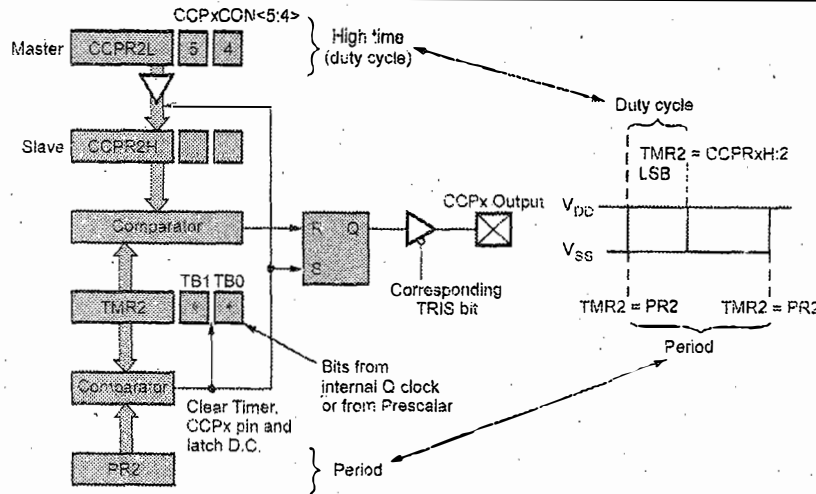

Fig. Q.19.1 PWM Mode
- CCP in PWM mode uses the timer 2 to generate a pulse wave form for a given frequency/duty cycle. Duty cycle is the key performance measurement factor. It uses the CCPRx and PR2 register. PR2 is an 8-bit period register (PR2) whose value remains fixed. TMR2 increments from 00 to the value equal to PR2, TMR2IF flag from PIR1 reg. is raised and TMR2 reset to 00. The clock source for TMR2 is  $F_{osc}/4$  for both prescaler and postscaler options. Fig. Q.19.1 shows block diagram for PWM mode. (Refer Q.19.1 on next page)